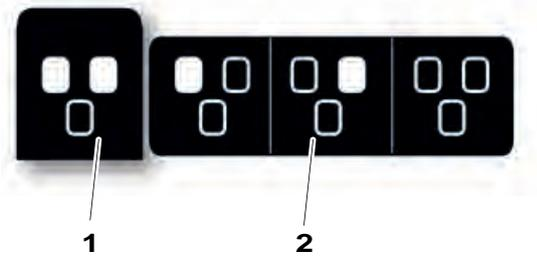

Fig. 3-6 AEC field selection
When selecting the *AEC field* button, a pop-up-window with the different AEC fields according to Fig. 3-6 *AEC field selection*, will appear. The *AEC fields* are activated by a selection in the pop-up window to the right (2). All activated *AEC fields* will be shown in the left picture (1). *AEC fields* are deactivated by selecting them again in the pop-up window (2).